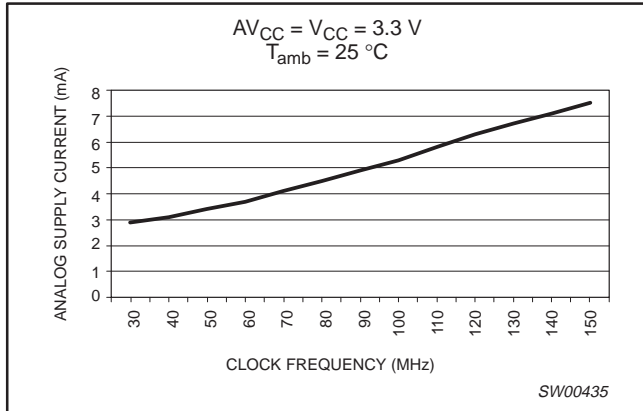

Figure 3. Analog supply current vs. clock frequency
- For I_{CCA} and I_{CC} vs. frequency, see Figures 3 and 4.